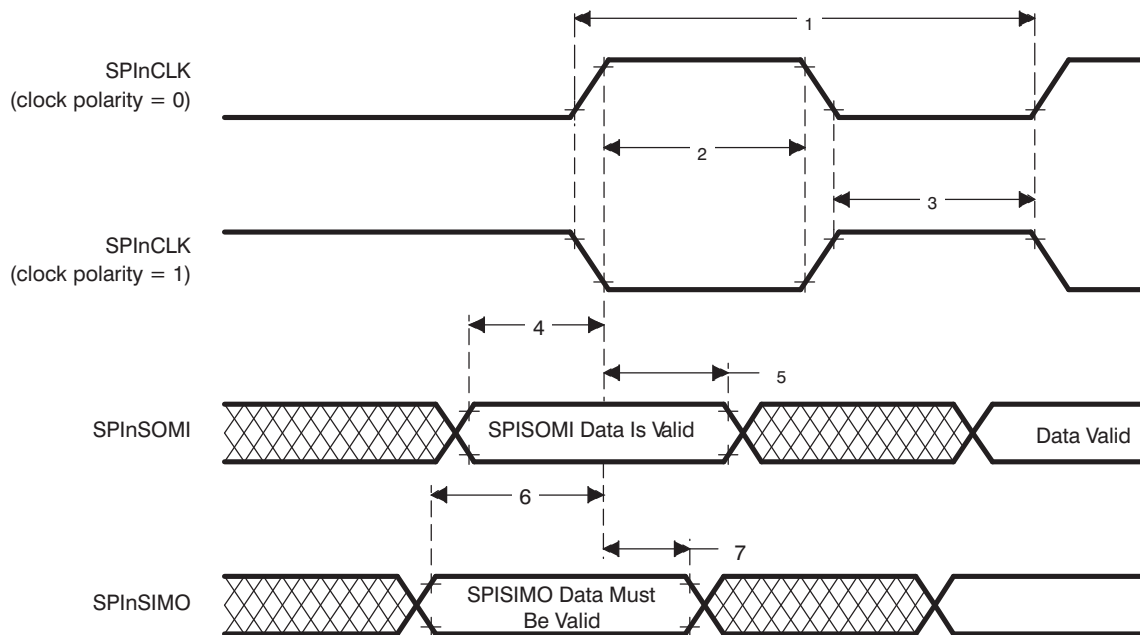

Figure 6-12. SPIn Slave Mode External Timing (CLOCK PHASE = 1)
(CLOCK PHASE = 1, SPInCLK = input, SPInSIMO = input, and SPInSOMI = output)^{(2) (3) (4) (5)} (see Figure 6-12)